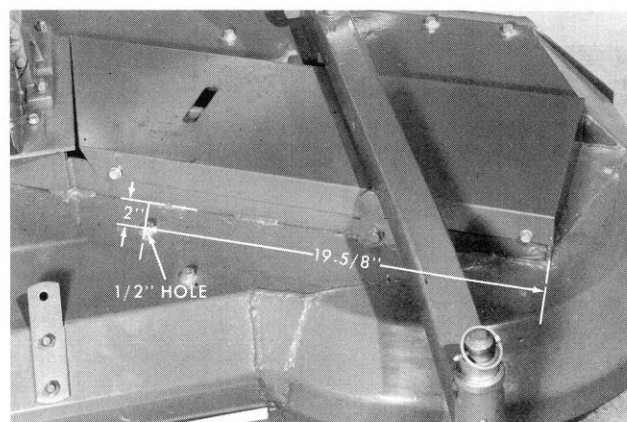

Figure 2
2. Mark the location of the right front bolt hole for the bottom rear shield according to the dimensions given in Figure 2. Drill a  $\frac{1}{2}$ " hole.